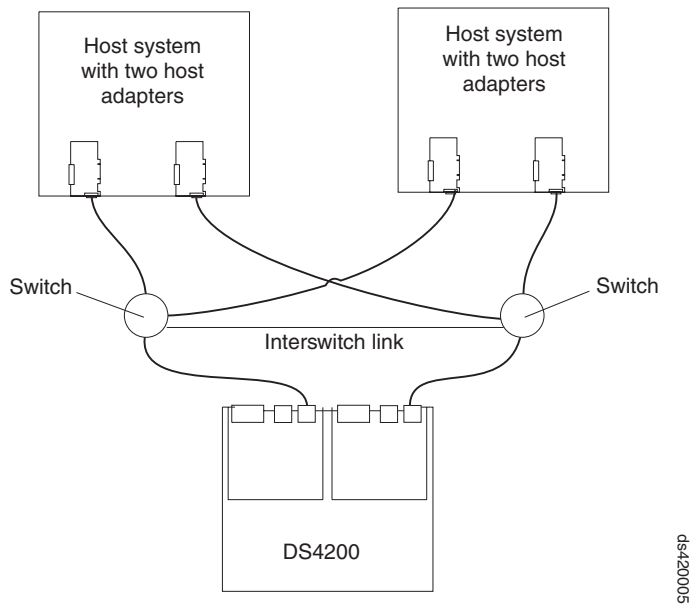

Figure 58. Example of a single SAN fabric configuration
- Single SAN fabric configuration, as shown in Figure 58 on page 76
In Figure 58 on page 76, the fibre channel switches are connected together via the inter-switch link (ISL) to form a single SAN fabric.